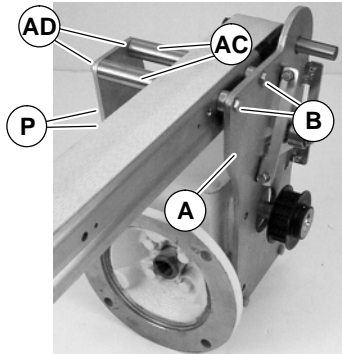

Figure 5
**NOTE:** 4" (102mm) and wider mounting assembly shown. 2" (51mm) and 3" (76mm) wide mounting assemblies include two spacer tubes (AC of Figure 5) and two long M6 screws (AD).
- 4b. For 2" (51mm) and 3" (76mm) conveyors, loosen (but do not remove) screws (P of Figure 5). Attach bottom mount assembly (A) to conveyor with screws (B), spacer tubes (AC) and screws (AD). Tighten screws (B) and (P) to 92 in-lb (10.4 Nm).